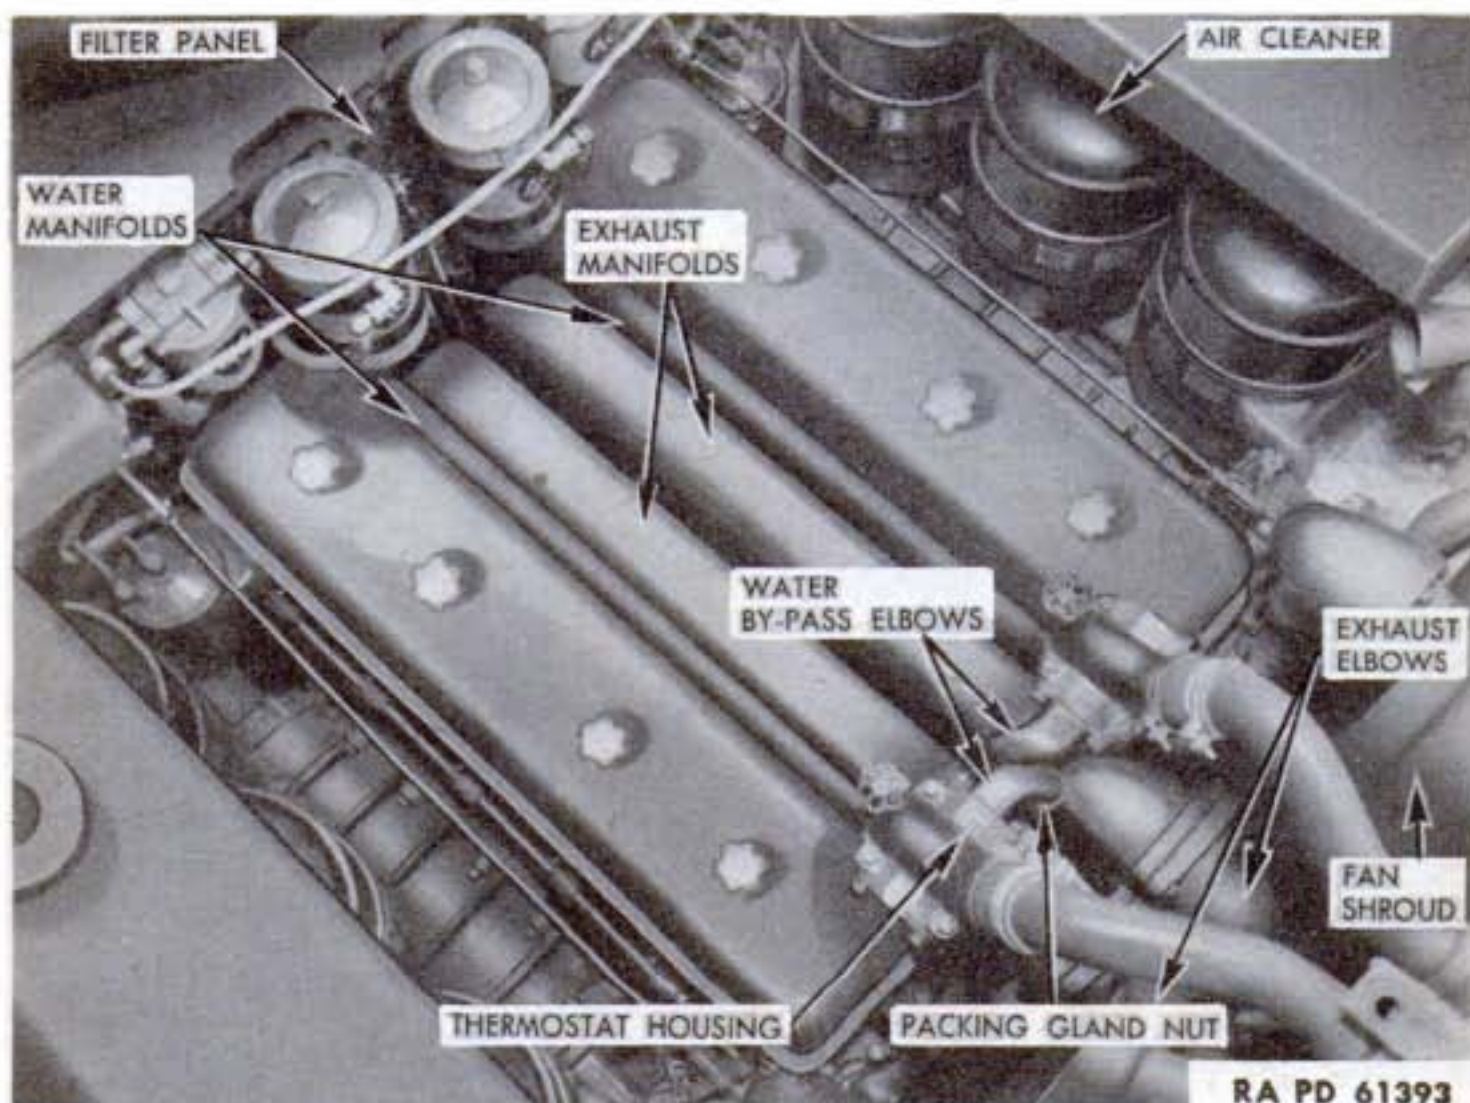

Figure 79—Top View of Engines Showing Water Manifolds and Connections
a. **Description.** The water manifold on each engine is attached to the cylinder head, and located between the rocker arm cover and the exhaust manifold (fig. 79). Water flows into the manifold through six water openings in the cylinder head and through the manifold to the thermostat housing and then to the radiator. The water temperature gage bulb is installed in the manifold at the fly-wheel end.
a. **Description.** Two thermostats are located in the outlet end of the water manifold on each engine. The thermostat housing or cover also serves as the cylinder water outlet (fig. 79). The thermostats regulate engine temperature by controlling the circulation of water through the radiator. When engine water temperature is less than 158°F the thermostats completely block any circulation through the radiator. The water then is circulated by means of a bypass tube only through the engine and oil cooler. Thus only a small quantity of water has to be heated and the engine reaches efficient operating temperature much more quickly. After engine water temperature exceeds 158°F, the thermostats start opening and permit some water to circulate through the radiator. When water temperature reaches approximately 185°F, the thermostats are opened fully and close off circulation through the bypass tube so that all water is circulated through the radiator. In cold weather when thermostats are closed and heated water is being circulated through the oil cooler, it really acts as an oil warmer. By thus heating the oil, more positive engine lubrication is assured in cold weather. One of the reasons for using two thermostats, which are identical in each engine, is to minimize resistance to the flow of water when thermostats are fully opened.
a. Description. An air bleeder valve is installed in each thermostat housing for the purpose of venting air out of the engine water jacketing when cooling system is being filled (fig. 79).